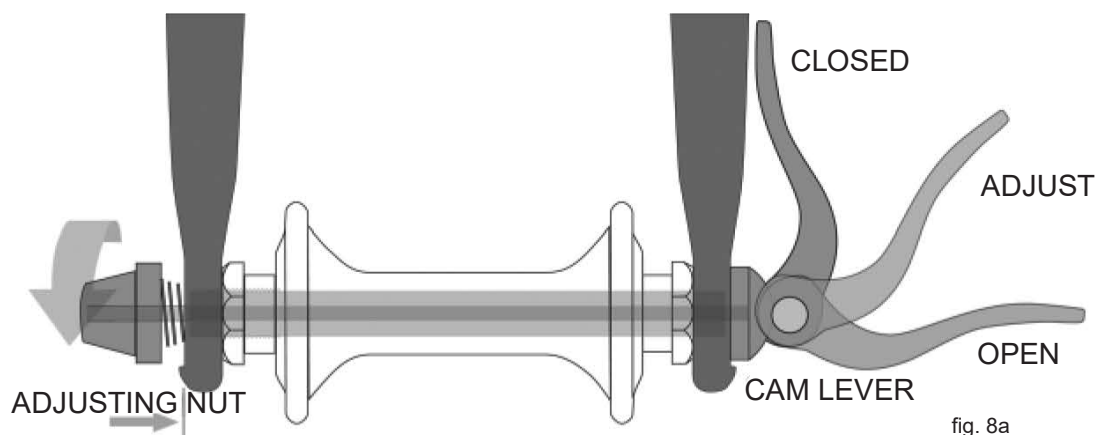
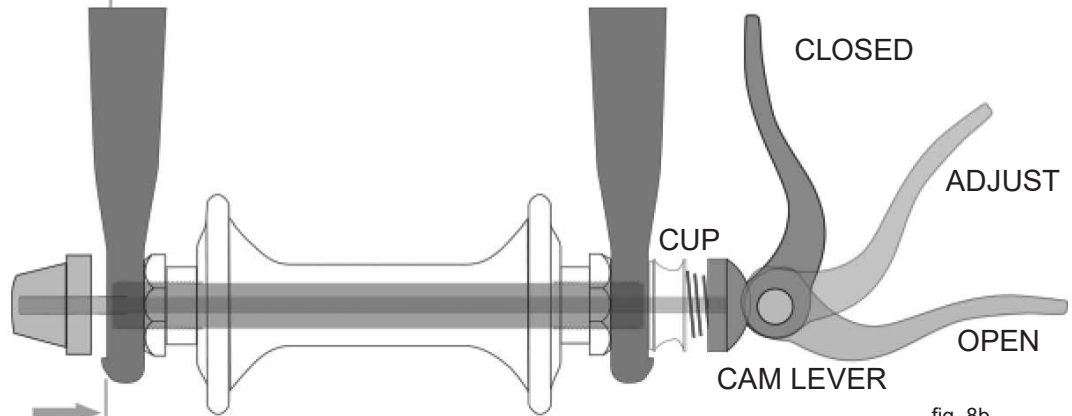

fig. 8a
fig. 8b
There are currently two types of over-center cam wheel retention mechanisms: the traditional over-center cam (fig. 8a) and the cam-and-cup system (fig. 8b). Both use an over-center cam action to clamp the bike's wheel in place. Your bicycle may have a cam-and-cup front wheel retention system and a traditional rear wheel cam action system.
### a. Adjusting the traditional cam action mechanism (fig. 8a)
### b. Adjusting the cam-and-cup mechanism (fig. 8b)
- (2) If your bike has cam action front wheel retention, move the cam lever from the locked or CLOSED position to the OPEN position (fig. 8a & b). If your bike has through bolt or bolt-on front wheel retention, loosen the fastener(s) a few turns counter-clockwise using an appropriate wrench, lock key or the integral lever.
- (3) If your front fork has a clip-on type secondary retention device, disengage it. If your front fork has an integral secondary retention device, and a traditional cam action system (fig. 8a) loosen the tension adjusting nut enough to allow removing the wheel from the dropouts. If your front wheel uses a cam-and-cup system, (fig. 8b) squeeze the cup and cam lever together while removing the wheel. No rotation of any part is necessary with the cam-and-cup system.
- (1) If your bike has cam action front wheel retention, move the cam lever so that it curves away from the wheel (fig. 8b). This is the OPEN position. If your bike has through bolt or bolt-on front wheel retention, go to the next step.
- (2) With the steering fork facing forward, insert the wheel between the fork blades so that the axle seats firmly at the top of the fork dropouts. The cam lever, if there is one, should be on rider's left side of the bicycle (fig. 8a & b). If your bike has a clip-on type secondary retention device, engage it.
- (3) If you have a traditional cam action mechanism: holding the cam lever in the ADJUST position with your right hand, tighten the tension adjusting nut with your left hand until it is finger tight against the fork dropout (fig. 8a). If you have a cam-and-cup system: the nut and cup (fig. 8b) will have snapped into the recessed area of the fork dropouts and no adjustment should be required.
- (4) While pushing the wheel firmly to the top of the slots in the fork dropouts, and at the same time centering the wheel rim in the fork:
- (a) With a cam action system, move the cam lever upwards and swing it into the CLOSED position (fig. 8a & b). The lever should now be parallel to the fork blade and curved toward the wheel. To apply enough clamping force, you should have to wrap your fingers around the fork blade for leverage, and the lever should leave a clear imprint in the palm of your hand.
- (3) On a derailleur gear system, pull the derailleur body back with your right hand.
- (4) With a cam action mechanism, move the quick-release lever to the OPEN position (fig. 8b). With a through-bolt or bolt-on mechanism, loosen the fastener(s) with an appropriate wrench, lock lever or integral lever; then push the wheel forward far enough to be able to remove the chain from the rear sprocket.
- (5) Lift the rear wheel off the ground a few centimeters and remove it from the rear dropouts.
- (1) With a cam action system, move the cam lever to the OPEN position (see fig. 8a & b). The lever should be on the side of the wheel opposite the derailleur and freewheel sprockets.
- (2) On a derailleur bike, make sure that the rear derailleur is still in its outermost, high gear, position; then pull the derailleur body back with your right hand. Put the chain on top of the smallest freewheel sprocket.
- (3) On single-speed, remove the chain from the front sprocket, so that you have plenty of slack in the chain. Put the chain on the rear wheel sprocket.
- (4) Then, insert the wheel into the frame dropouts and pull it all the way in to the dropouts.
- (5) On a single speed or an internal gear hub, replace the chain on the chainring; pull the wheel back in the dropouts so that it is straight in the frame and the chain has about 0.6 cm of up-and-down play.
- (6) With a cam action system, move the cam lever upwards and swing it into the CLOSED position (fig. 8a & b). The lever should now be parallel to the seat stay or chain stay and curved toward the wheel. To apply enough clamping force, you should have to wrap your fingers around the fork blade for leverage, and the lever should leave a clear imprint in the palm of your hand.
- (7) With a through-bolt or bolt-on system, tighten the fasteners to the torque specifications in Appendix C or the hub manufacturer's instructions.